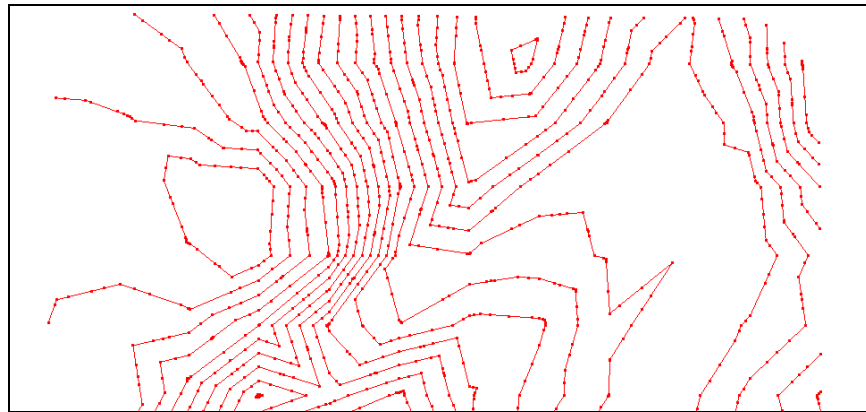

Figure 29 Scatter points and breaklines
11. **Zoom**  in to the top west part of the scatter set in order to better see scatter points and scatter breaklines (Figure 29).